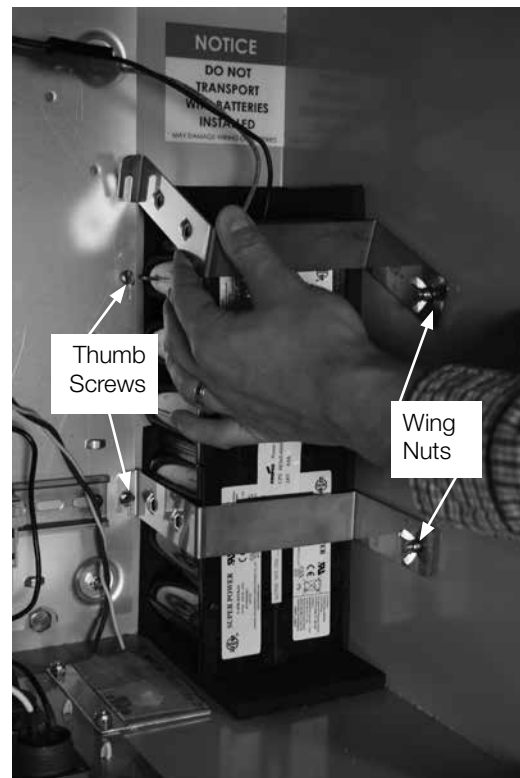

Figure 45. Loosen and lift battery bracket
3. Loosen, but do not remove, the battery bracket two wing nuts located to the front-right of battery (Figure 45).
4. Loosen, but do not remove, the two thumb screws for the battery brackets [located to the back-left of battery] (Figure 45).
5. Push up on the open notch end of the top battery bracket to release one end as shown in Figure 45.